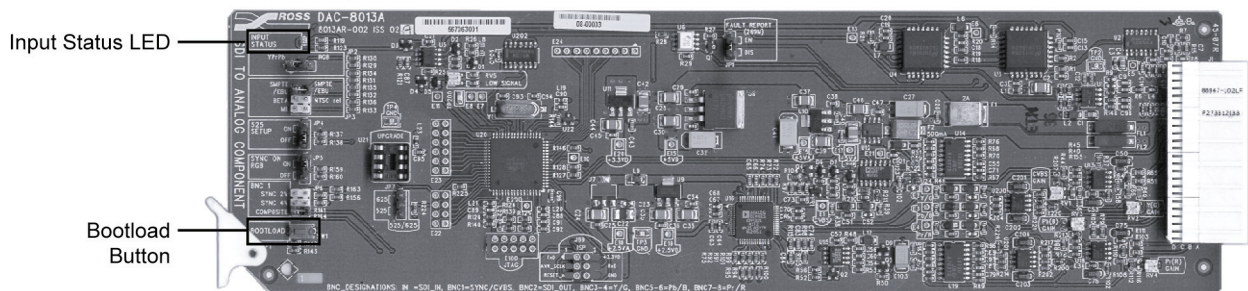

Figure 6. DAC-8013A Input Status LED
2. Power up the card and wait until the **Input Status** LED is lit. Refer to Figure 6 for the LED location.